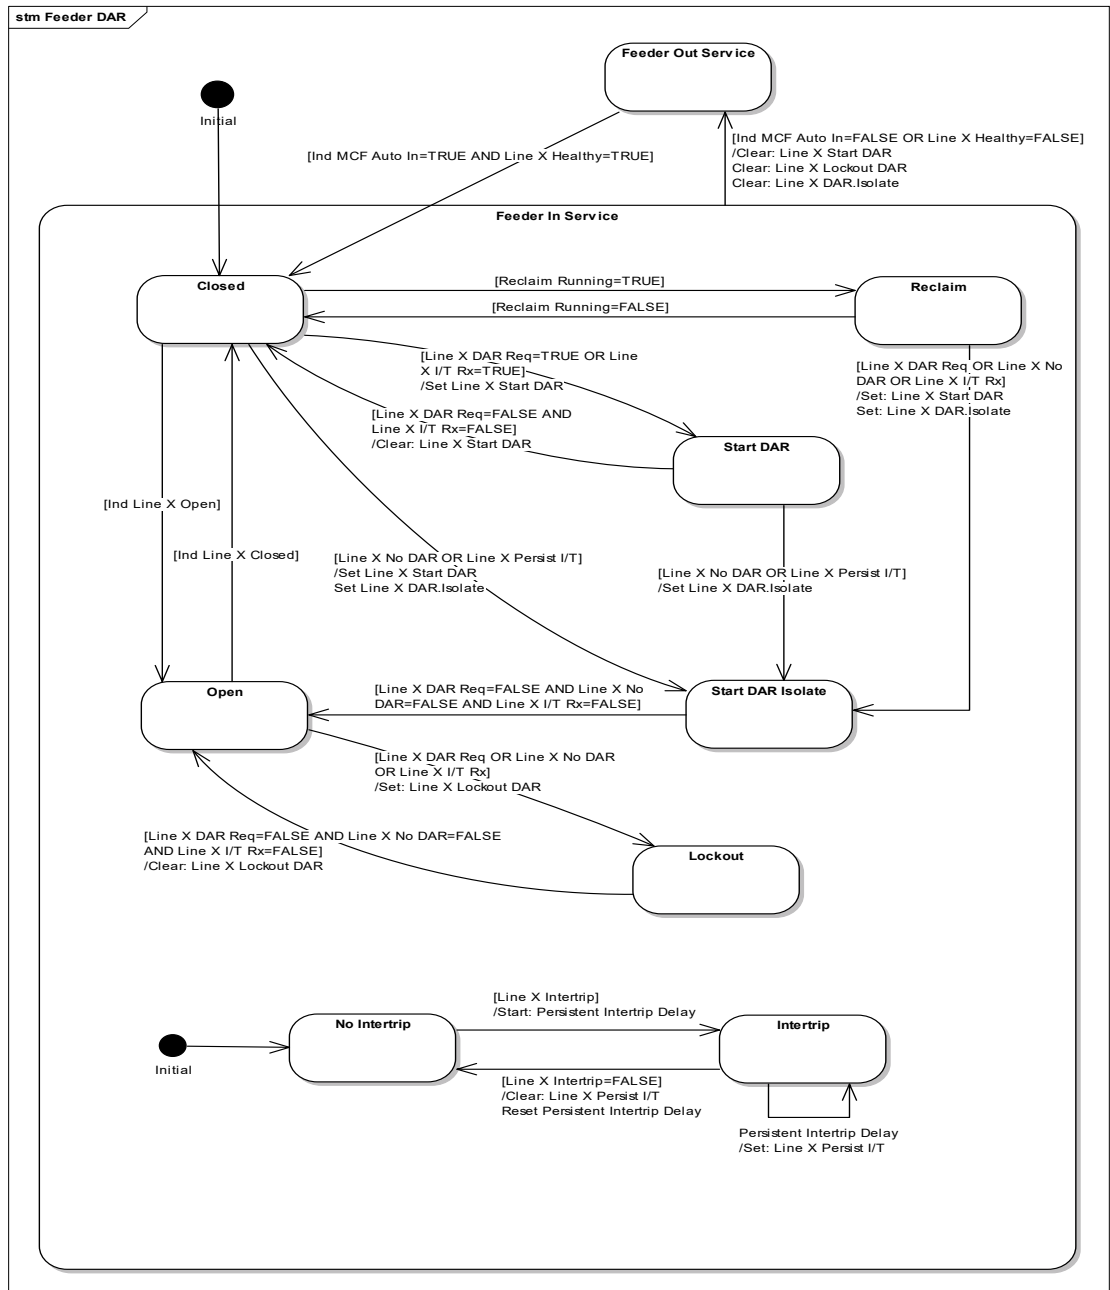

Figure 10: Feeder function DAR interface- state chart
- Figure 10: Feeder DAR Interface: Respond to Feeder protection signals